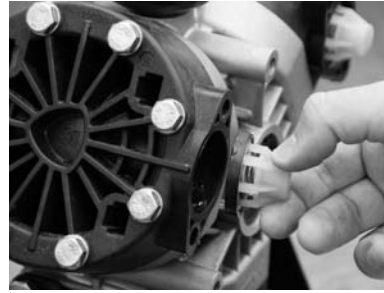

Fig. 7
4. Remove the discharge valves for service or replacement. This can usually be done by hand (Fig. 7) but use external pliers if necessary.